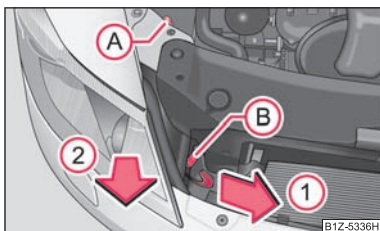

Fig. 193 Front headlight: Fitting position of the bulbs
- Unscrew the plastic nut **A** ⇒ fig. 193.